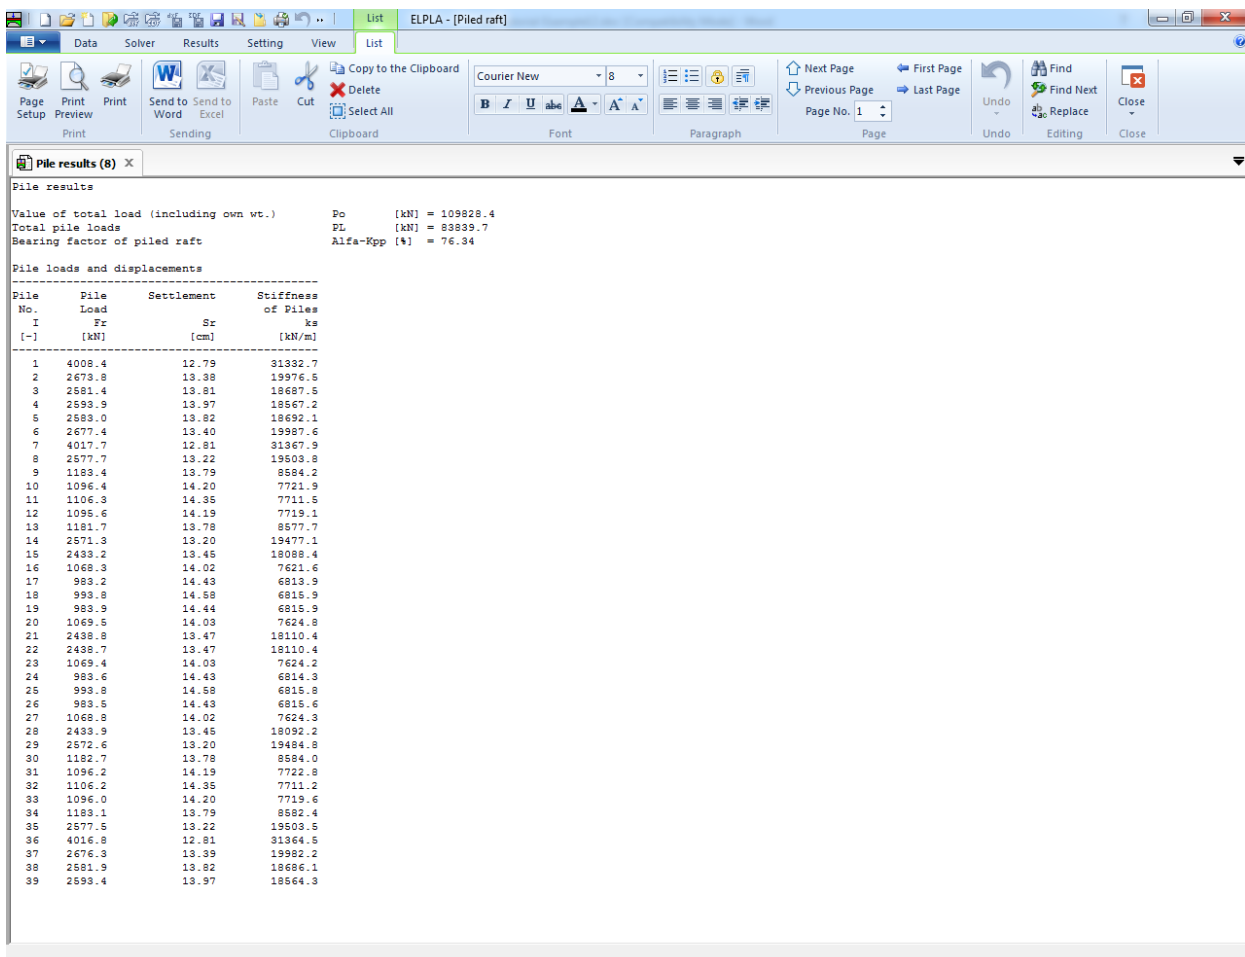

Figure 12.40 List of pile results
- Click "OK" button. The pile results are now listed (Figure 12.40)